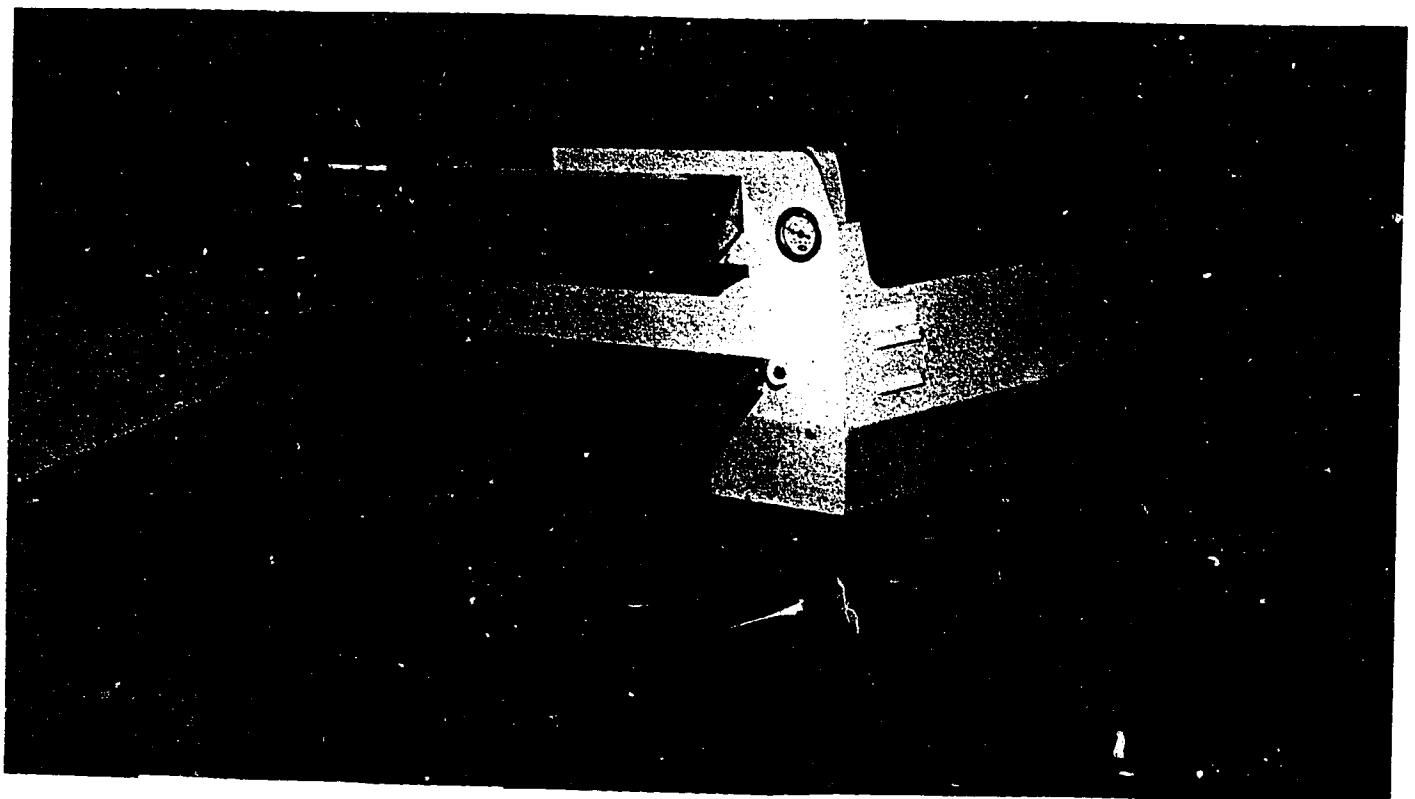

Figure 4-3. Pako tempno 400 dryer.
**RC Dryer.** The dryer (Pako Tempro 400) shown in figure 4-3 is designed to dry resin coated or plastic based prints. It can handle prints up to 24 inches (61cm) wide. You can dry approximately 325 8 x 10 prints in one hour. The drying temperature is 225° F. (107° C.) at a speed from 7 to 42 inches (18 to 107 cm) per minute.